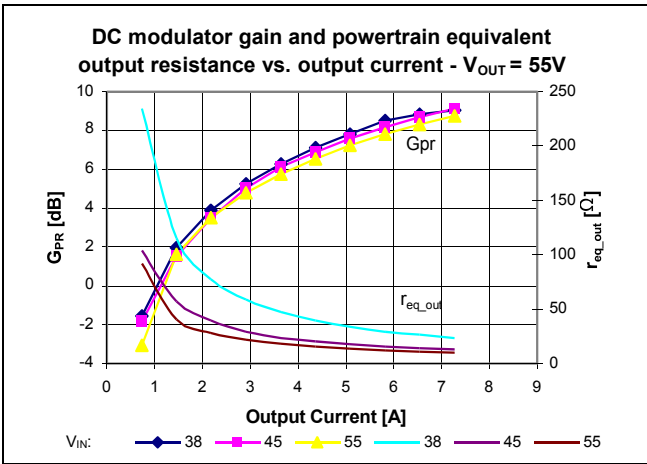

Figure 17 – Powertrain characteristics vs. I_{OUT} ; Resistive load, $V_{OUT} = 55\text{ V}$, various V_{IN}
The powertrain small signal (plant) response consists of a single pole determined by the load resistance, the powertrain equivalent output resistance, and the total output capacitance (internal and external to the module). Both the modulator gain and the equivalent output resistance vary as a function of line, load and output voltage, as shown in Figures 17, 18 and 19. As the load increases, the powertrain pole moves to higher frequency. As a result, the closed loop crossover frequency will be the highest at full load and lowest at
- Modulator Gain G_{PR} : See Figures 17, 18, 19
- Powertrain equivalent resistance r_{EQ} : See Figures 17, 18, 19